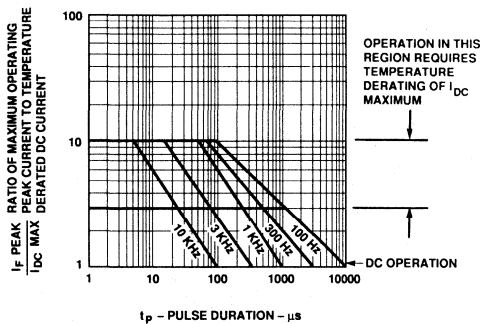

Figure 10. Maximum Tolerable Peak Current vs. Pulse Duration - HER.
- See Figure 10 to establish pulsed conditions.